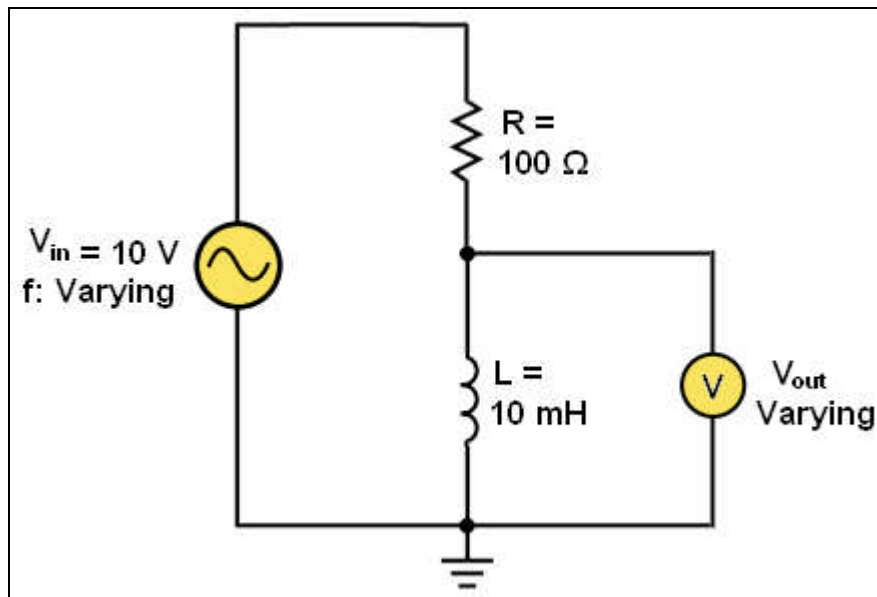

Fig. 2.3-16 Example of High-Pass Filter Action
Fig. 2.3-16 shows a series of specific measurements. Again, the frequency starts at zero (DC) and is increased in increments up to 10 KHz. At each value of frequency the output voltage is measured (Table 2.3-4).